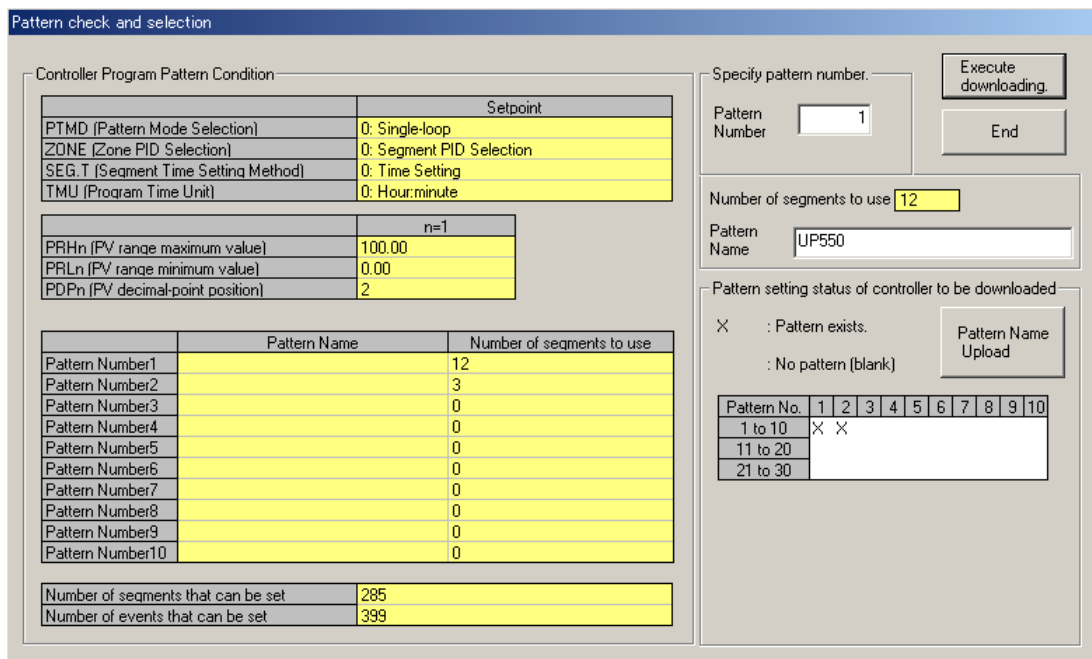

Figure 12.2.2 Pattern Check and Selection Dialog Box (Download)
- (2) Click **Front communication**.
- (3) From the **Serial Port** list, select a communication port of the personal computer (COM1 to COM16).
- (4) Connect the controller to the personal computer, and then click **OK**.
- (5) When communication is established, the Pattern Check and Selection dialog box (Figure 12.2.2) appears, showing the program pattern setting status of the controller.
- (6) Connect the controller to the personal computer, and then click **OK.**
- (7) When communication is established, the Pattern Check and Selection dialog box (Figure 12.2.2) appears, showing the program pattern setting status of the controller.
- (8) Enter the pattern number in the **Pattern Number** box and click **Execute downloading.**
- (9) When downloading is complete, a message appears to notify you it is complete.
- (2) Click **Terminal communication**. (This means to use the communication terminals at the rear of the controller.)
- (3) Click **Ethernet communication**.
- (4) Set the target controller's IP address and RS485 communication address in the **IP Address** text box.
- (5) Set the target controller's port number in the **Port No.** text box. The port number can be set in decimal or hexadecimal.
- (6) Connect the controller to the personal computer, and then click **OK**.
- (8) Enter the pattern number in the **Pattern Number** box and click **Execute downloading**.